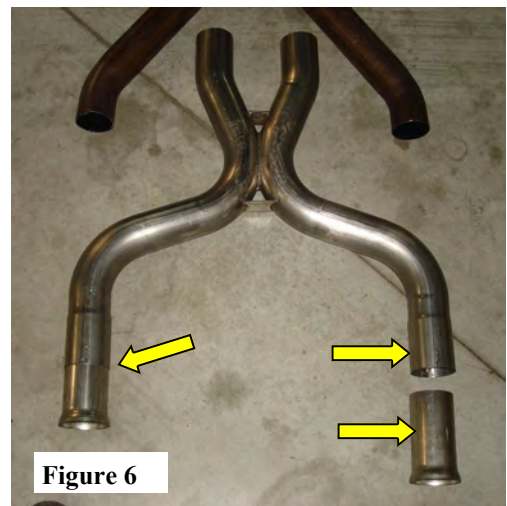

Figure 6
MUSTANG GT ONLY: Loosen and remove (2) factory ball clamps on catalytic converter pipes. Carefully remove factory H-pipe connection to these pipes. Install Flair Nipples using (2) factory ball clamps, tighten bolts 32-35 ft. lbs. (See Fig. 6)